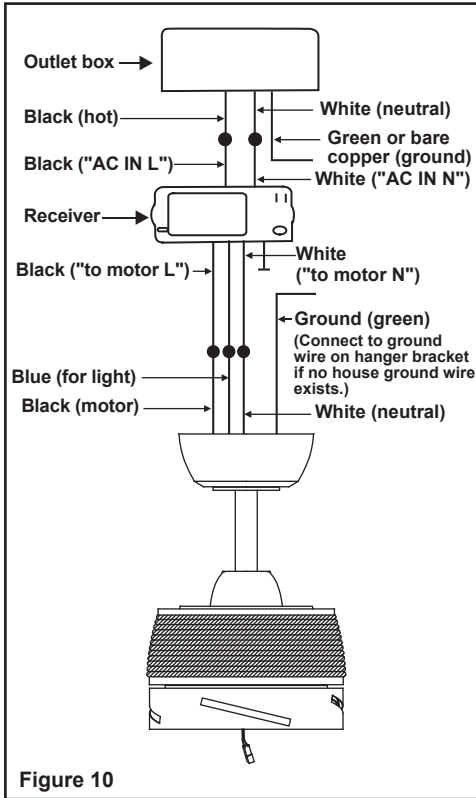

Figure 10
Step 2. (Fig. 10) Motor to Receiver Electrical Connections: Connect the Black wire from the fan to Black wire marked "TO MOTOR L". Connect the White wire from the fan to the White wire marked "TO MOTOR N" from the receiver. Connect the Blue wire from the fan to the Blue wire marked "For Light" from the receiver. Secure wire connections with the plastic wire nuts provided.
Step 3. (Fig. 10) Receiver to House Supply Wires Electrical Connections: Connect the black (hot) wire from the ceiling to the black wire marked "AC in L" from the receiver. Connect the white (neutral) wire from the ceiling to the white wire marked "AC in N" from the Receiver. Secure the wire connections with the plastic wire nuts provided.
Step 4. (Fig. 10) If your outlet box has a ground wire (green or bare copper) connect it to the fan ground wires; otherwise connect the hanging bracket ground wire to the mounting bracket. Secure the wire connection with a plastic nut provided. After connecting the wires spread them apart so that the green and white wires are on one side of the outlet box and black and blue wires are on the other side. Carefully tuck the wire connections up into the outlet box.